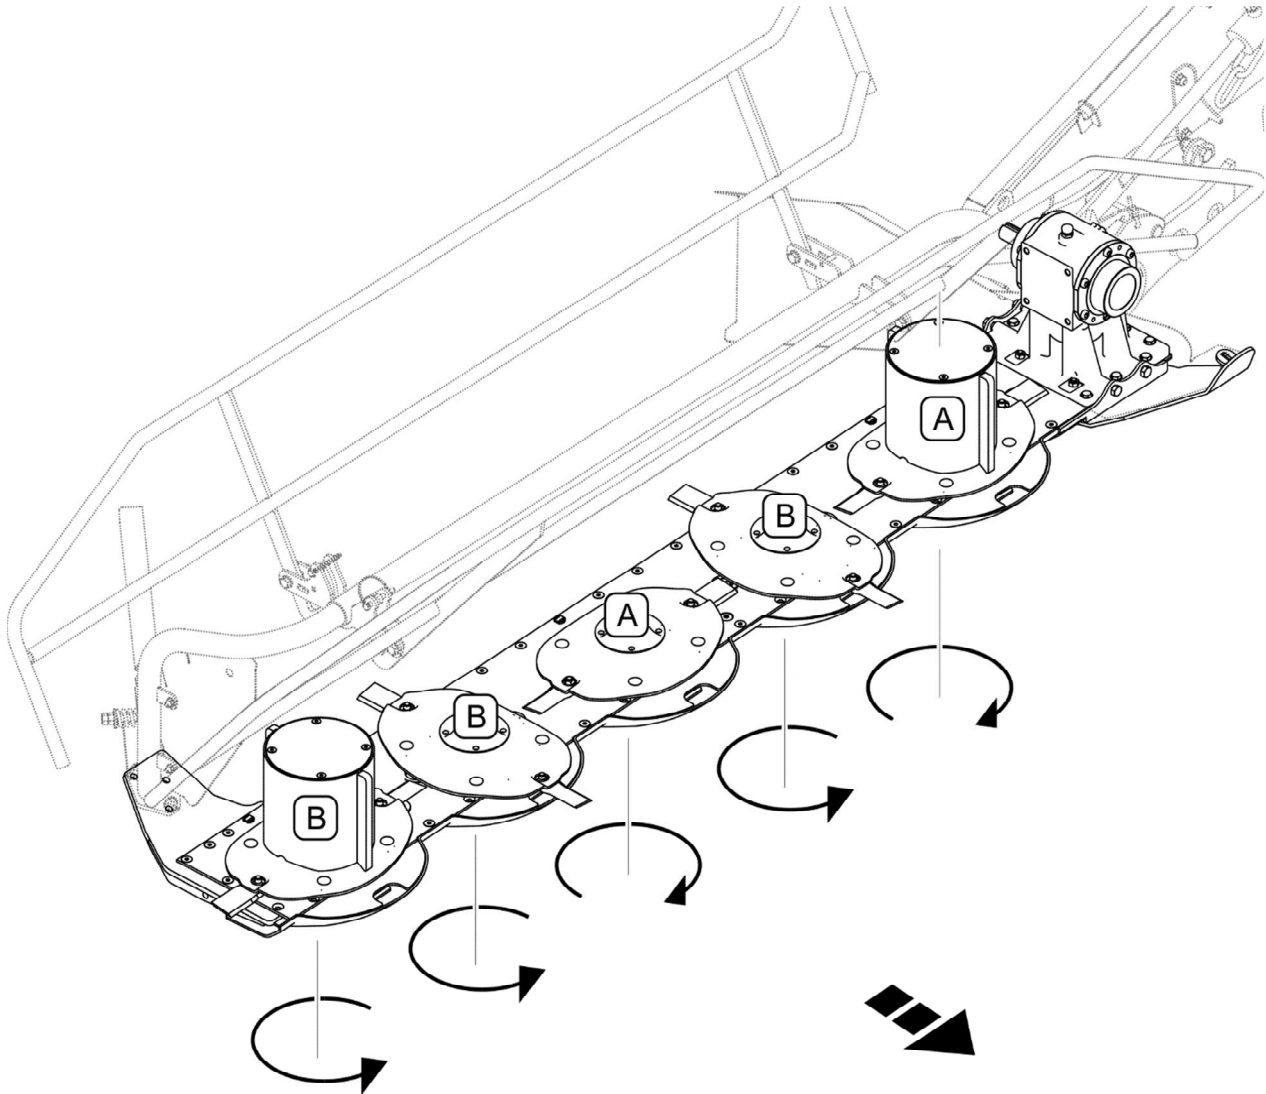

FIGURE 5.2 Blade types depending on cutting disc rotation direction
Due to different cutting disc rotation direction, cutter bar (FIGURE 5.2) is equipped with the right blades (A) and left blades (B). Rotation direction is indicated on the blade.